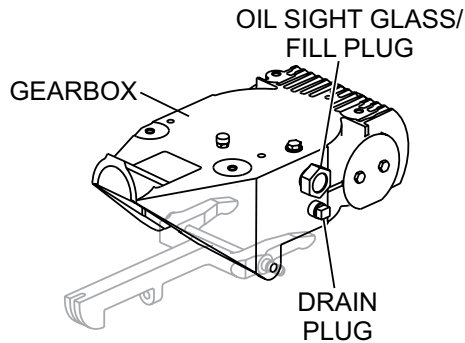

Figure 23. Gearbox
1. Determine if the gearbox oil is low by removing the oil plug located on the side of the gearbox. (Figure 23) This plug will be marked by the "check" decal. The correct level of the lubrication oil should be to the bottom of the fill plug.